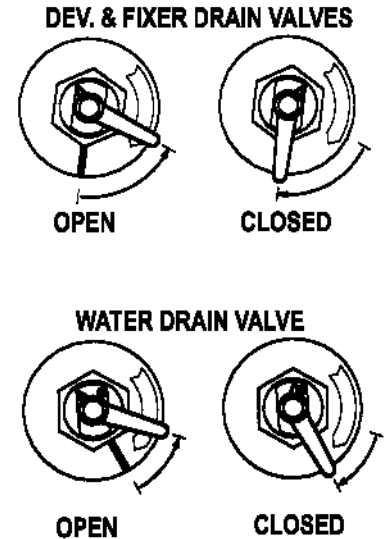

Figure 1
2. Drain the tanks one at time by opening the drain valves located at the front bottom of the processor. (See Figure 1) As each tank drains, check all seals and connections. Close the valves after completely draining each tank.